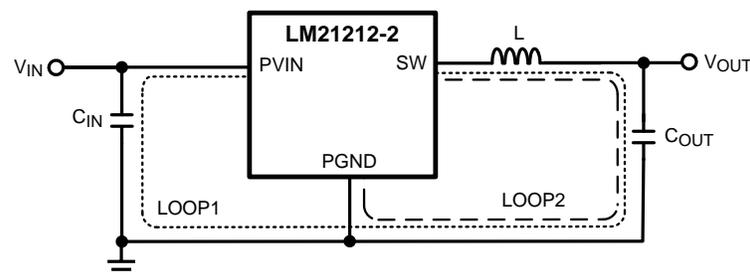

Figure 36. Schematic of LM21212-2 Highlighting Layout Sensitive Nodes
1. Minimize area of switched current loops. In a buck regulator there are two loops where currents are switched at high slew rates. The first loop starts from the input capacitor, to the regulator PVIN pin, to the regulator SW pin, to the inductor then out to the output capacitor and load. The second loop starts from the output capacitor ground, to the regulator GND pins, to the inductor and then out to the load (see Figure 36). To minimize both loop areas, the input capacitor should be placed as close as possible to the VIN pin. Grounding for both the input and output capacitor should be close. Ideally, a ground plane should be placed on the top layer that connects the PGND pins, the exposed pad (EP) of the device, and the ground connections of the input and output capacitors in a small area near pins 10 and 11 of the device. The inductor should be placed as close as possible to the SW pin and output capacitor.